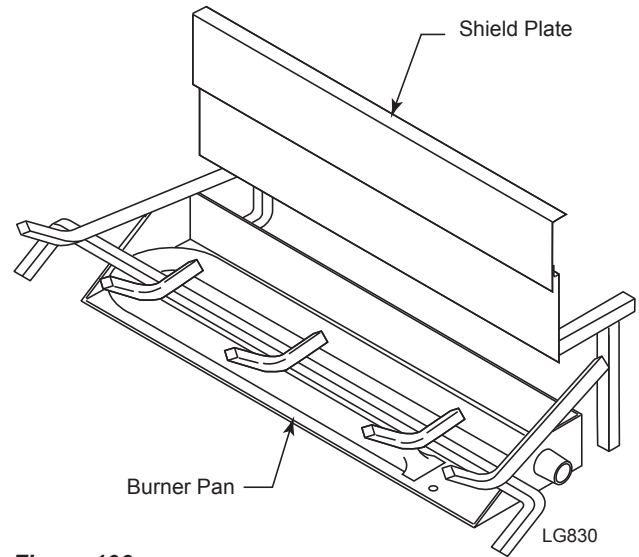

**Figure 106 -
1. Slide shield plate behind burner pan. *Figure 106*